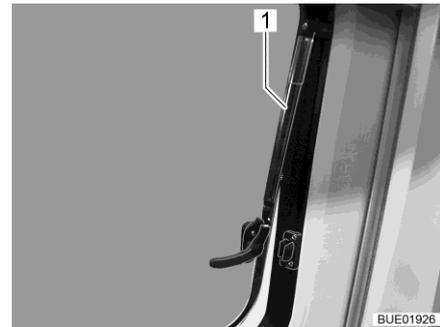

Fig. 18 Hinged window with automatic hinges, open
- Campeo/Eliseo: Open the hinged window. Snap the automatic hinge (Fig. 18,1) into one of the predefined locking positions. A clear clicking sound must be heard when it engages.
Delfin C: Open the hinged window to any desired position. The automatic hinge (Fig. 18,1) keeps the hinged window open in any position without steps.